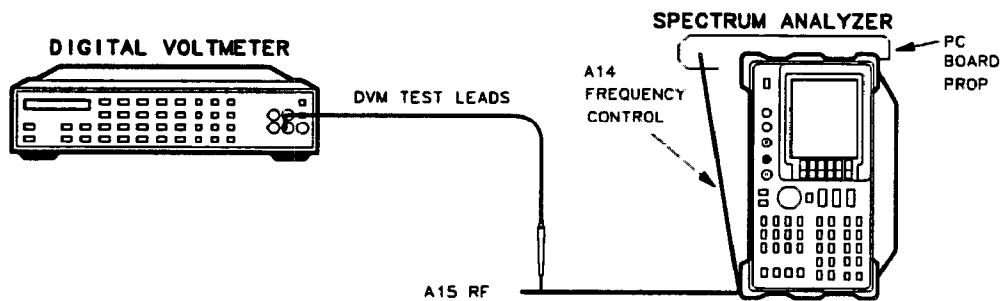

Figure 2-6. Sampler Adjustment Setup
1. Set the HP 8562A/B **LINE** switch to OFF and disconnect the line power cord. Remove the analyzer's cover and fold down the A15 RF and A14 Frequency Control assemblies. Prop up the A14 Frequency Control assembly. Reconnect the line power cord and set the **LINE** switch ON. Connect the equipment as illustrated in Figure 2-6.